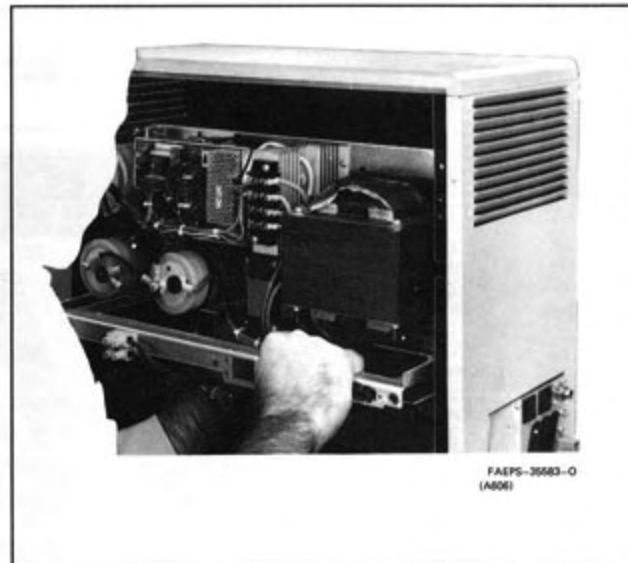

Figure 6. Properly Gripped Chassis
Step 6. Reach under the bottom of the chassis with your left hand, to balance the heavy chassis on the cabinet. Press the chassis firmly against the rails, or else it may suddenly slide out of the cabinet. See Figure 6.